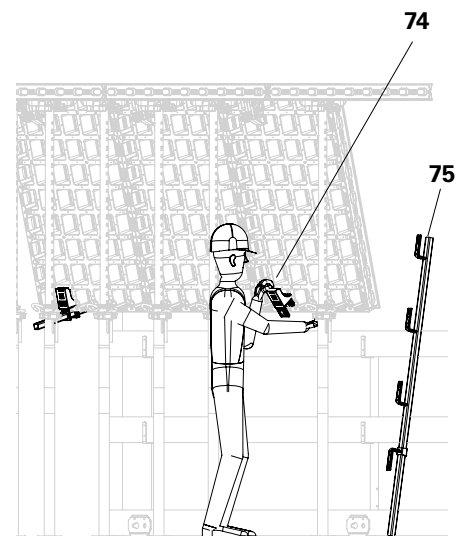

Fig. D4.02a
2. Insert the DUO slab guardrail holder (**74**) with the flat side facing down through the connector pocket (**10.2**) of the DP panel. (Fig. D4.02a)